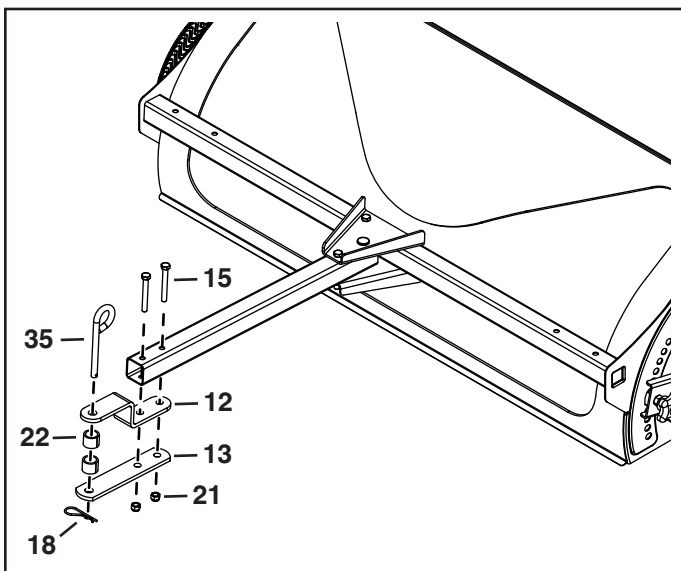

FIGURE 6
STEP 6: (SEE FIGURE 6)
- Attach the hitch bracket (12) and straight hitch bracket (13) to the drawbar using two 5/16" x 2-1/2" hex bolts (15) and 5/16" nylock nuts (21).
- Assemble a 3/8" x 3" hitch pin (35) and two 3/4" spacers (22) to the hitch brackets. Secure them in place with a 3/32" hair cotter pin (18).